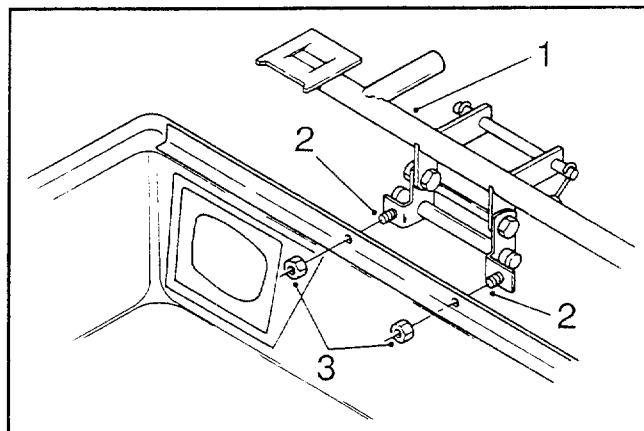

Figure 9
4. Mount the frame and hinge assembly to the bagger top (Fig. 9) using two 1/4" x 3/4" bolts